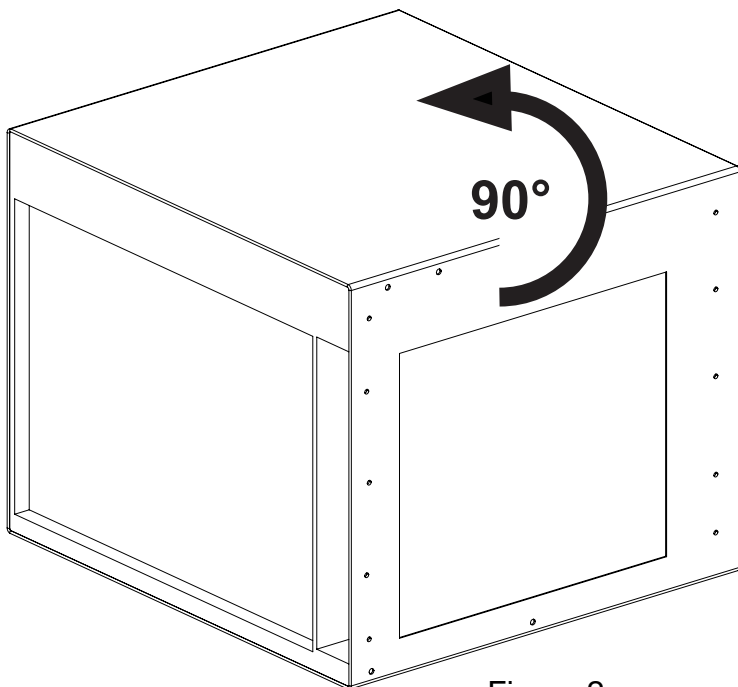

Figure 2
- Rotate Cisco 9606R 90 degrees counterclockwise. Fan Tray should be at top (Figure 2).